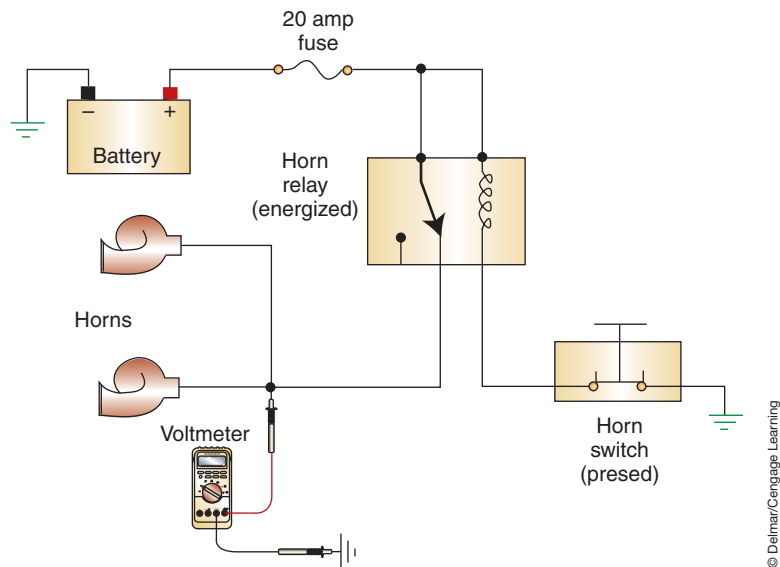

FIGURE 14-4 Testing for voltage at the last common connection.
6. In a multiple-horn system, test for voltage at the last common connection between the horn relay and the horns (Figure 14-4). On a single-horn system, test for voltage at the horn terminal. Voltage should be present at this connection only when the horn button is depressed. If there is no voltage at this connection, repair the open between the relay and the common connection. If voltage is present, check the individual circuits from the connection to the horns; repair as needed.